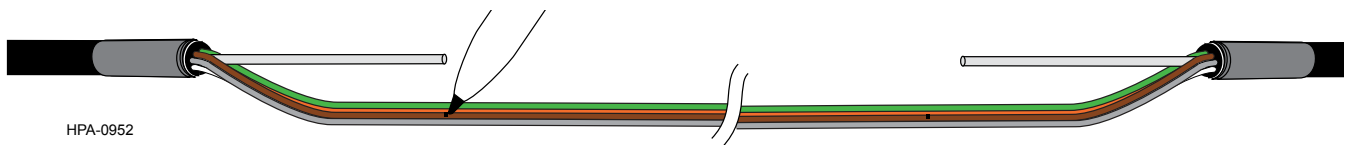

Figure 20
Step 2: Use a permanent marking pen to mark the tube(s) with both start and end points to indicate the length of buffer tube to be opened (Figure 20). The length of opening is dependent on the installation, tray requirements, and the available fiber needed for splicing and routing.